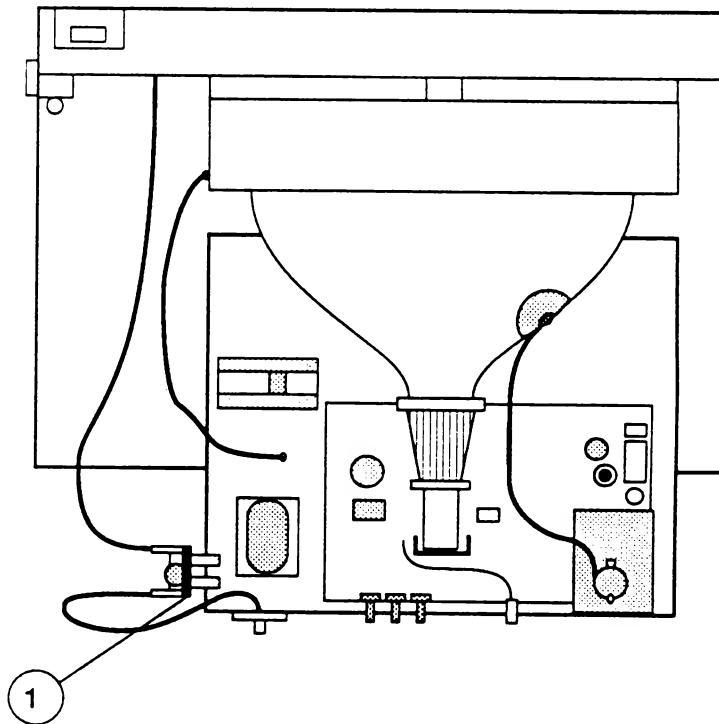

FIGURE 16
3. Locate the line filter board (Figure 16, #1).